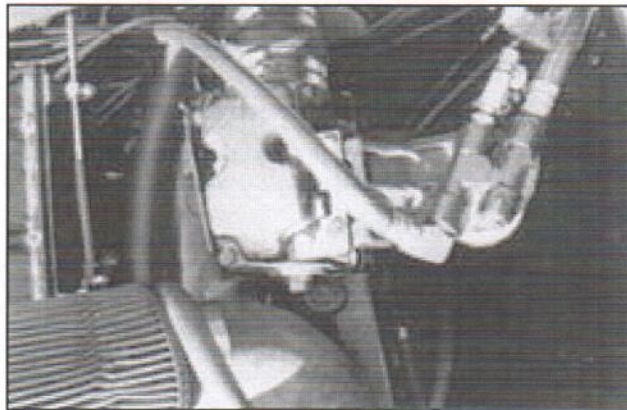

FIGURE C1
1. Remove the oil lines from the oil filter housing. Remove the oil filter housing from the exhaust manifold. Attach the supplied oil filter bracket to the port side outboard exhaust riser bolts. Attach the oil filter housing to the bracket with the tabs on the underside of the bracket. See Figure C1. Pull the oil lines out from beside the computer box. Reroute the lines back up to the relocated oil filter housing and securely reattach to the aft/back ports on the oil filter housing; it will be necessary to relocate the plugs in the housing. **Note:** twin engine applications may require purchase of optional transom-mount hardware, due to the lack of side clearance.